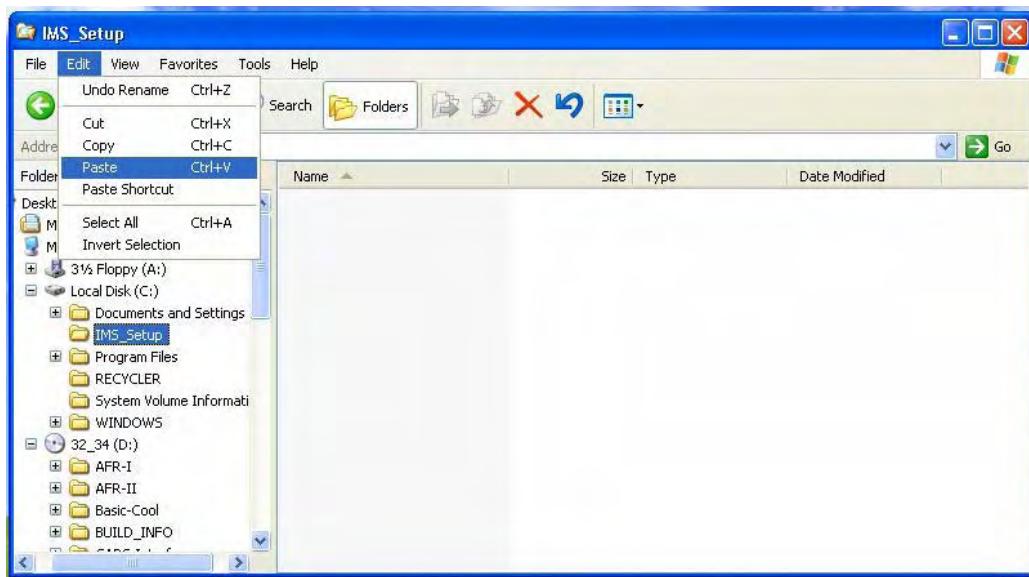

Figure 1-76. Explorer Window – Paste All Folders
7. Locate the folder **C:\IMS_Setup** and click on it (Figure 1-76).